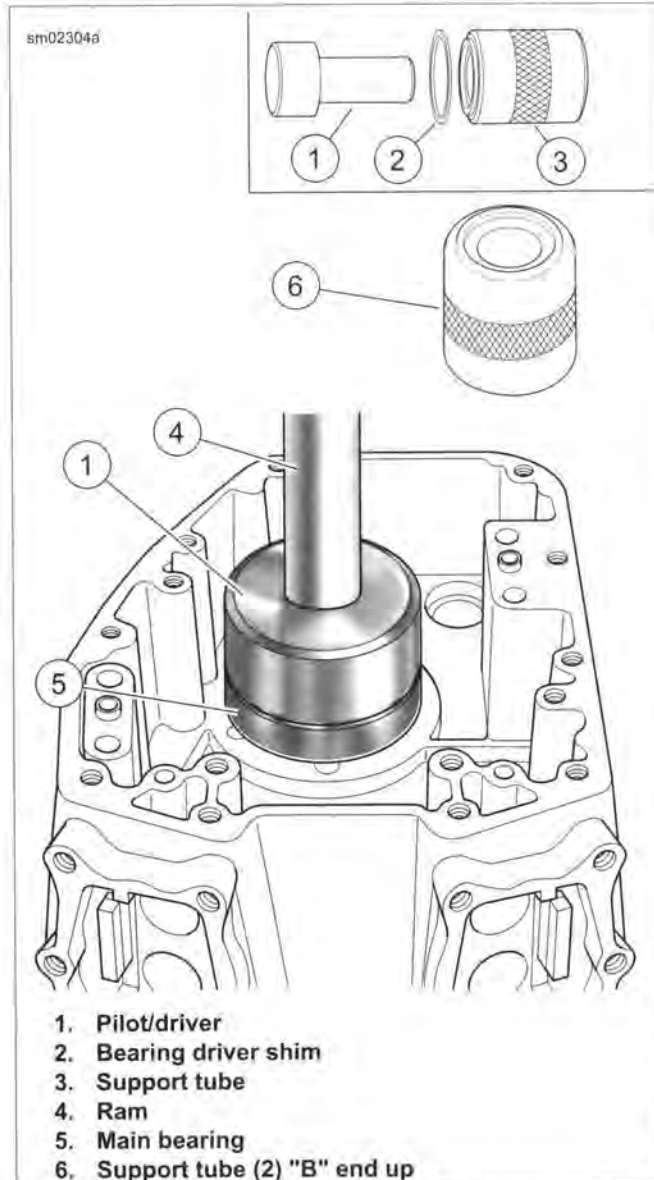

Figure 3-115. Right Main Bearing Installation
1. See Figure 3-115. Obtain CRANKCASE BEARING REMOVER/INSTALLER (Part No. B-45655), CRANKSHAFT BEARING DRIVER SHIM (Part No. HD-42720-4) and REMOVER/INSTALLER SUPPORT TUBE (Part No. HD-42720-5).
2. Spread a thin film of clean engine oil on OD of **new** bearing (5).
3. Place support tube (3) on press table with the end marked "B" up.
4. Place CRANKSHAFT BEARING DRIVER SHIM (Part No. HD-42720-4) (2) on support tube (3).
7. Slide remover/installer (1) through bearing into support tube.
8. Center remover/installer under ram (4) of press. Apply pressure until resistance is felt and bearing is bottomed on the support tube.